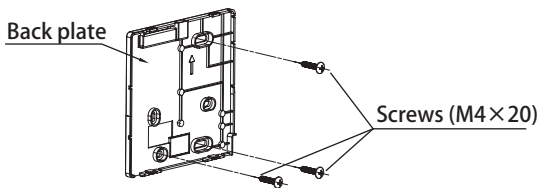

Fig 3-3
- For exposed mounting, fasten the back plate to the wall with the 3 screws (M4×20) and plugs. (Fig.3-3)